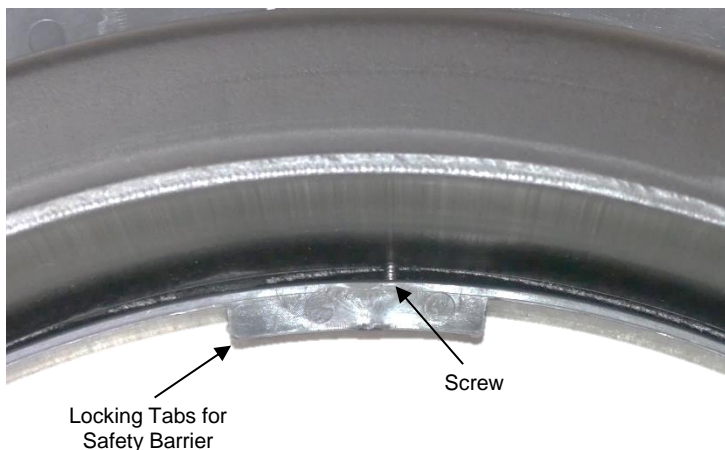

Figure 7: Screw installed (Top down view)
- 6.) Install four (4) provided #12 x $\frac{3}{4}$ " screws into mounting dimples to attach the adapter flange to the riser pipe. Drive the screws until the head makes contact with the adapter flange & slightly compresses the flange (Fig 7.) & (Fig 8). There should be a visible gap (approximately $\frac{1}{2}$ ") between base flange & pipe once installed. OPTIONAL: Mounting dimples can be pre-drilled with $\frac{1}{8}$ " bit to facilitate screw installation.